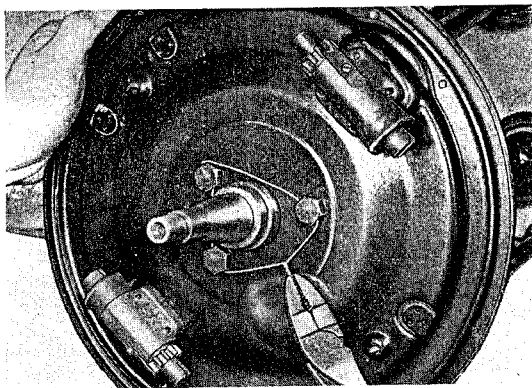

Fig. 26
5. Secure retaining bolts with wire so as to prevent back plate bolts from getting loose (see fig. 26).